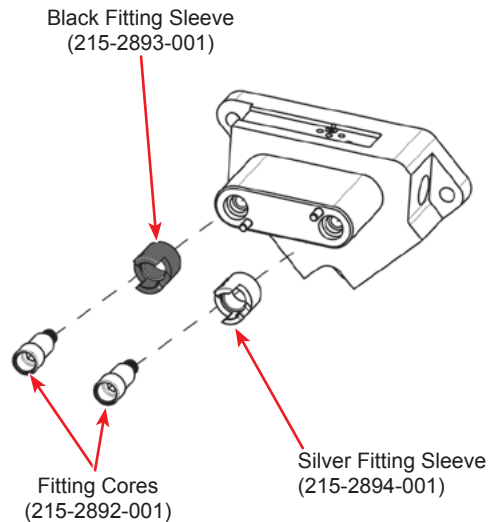

Figure 3-81 Pneumatic Fittings Removal
- 60.1 Using a 1/8 inch hex wrench, loosen the Pneumatic Fitting and remove from connector panel (see Figure 3-81). Both the Fitting Core and Fitting Sleeve should come out.